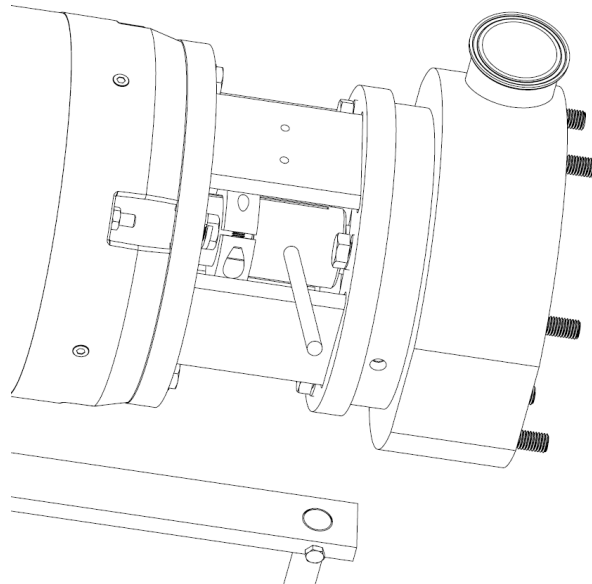

Figure 2
4. Insert a 3/8" bar in the hole in the stub shaft as shown in Figure 2. Turn the rotor nut with a socket wrench counterclockwise to remove the rotor nut.